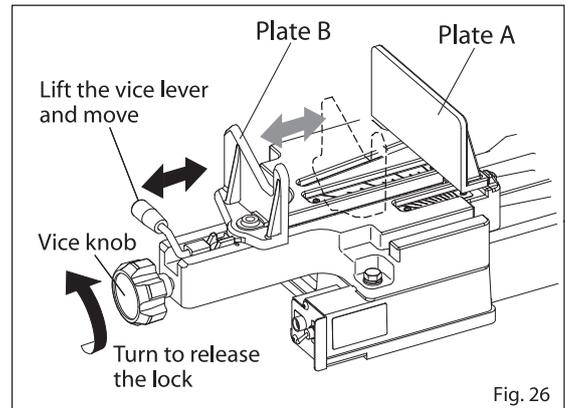

Fig. 26
XB180WA Flat Vice (Fig. 26~Fig. 31)
How to move Plate B (Fig. 26)
- (1) Turn the Vice knob anti-clockwise to release the lock. (Fig. 26)
- (2) If you pull the vice lever up and move it backwards and forwards, Plate B will move likewise at the same time. (Fig. 26)
- (1) Place the workpiece in the vice carefully aligning it with Plate A. (Fig. 26)